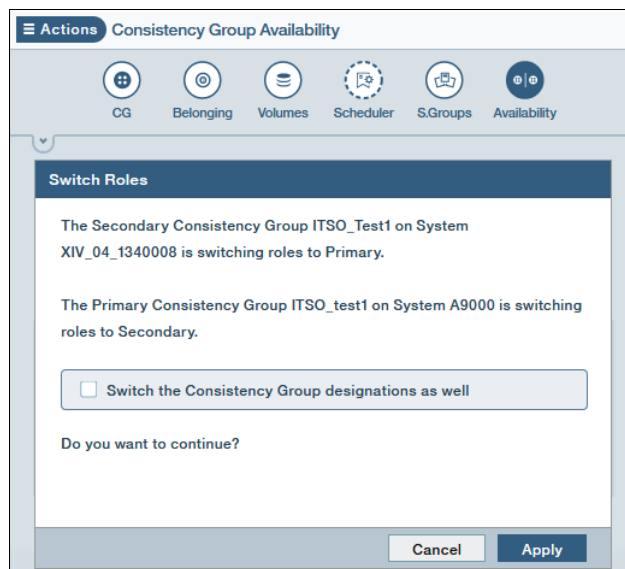
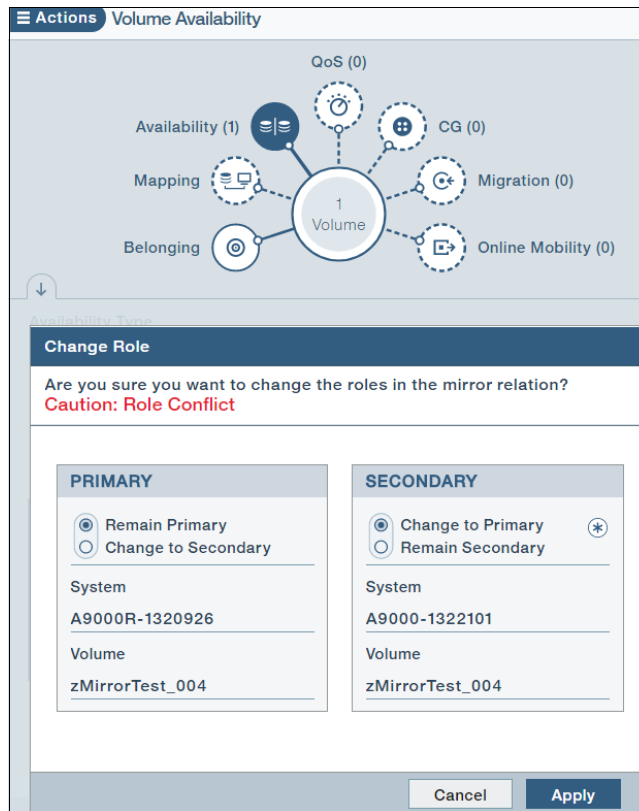

Figure 4-38 Switch roles confirmation prompt with an optional switching of designation
Figure 4-43 Changing role of target volume or CG to become primary
8. Select **Switch Roles** for the current and new role information, and optionally set a **Designation** of a volume starting with Hyper-Scale Manager 5.3, as shown in Figure 4-38. The storage administrator can specify a designation in a mirroring relationship that might not be the same as the role. This is a logical setting and has no impact on the role of the volumes and consistency groups in a mirroring relationship.
In unsynchronized state, the switch role function, as shown for a CG in Figure 4-38 on page 103, is not available. You must use the change role function as shown in Figure 4-43. In this example, the role of a mirrored volume is changed.